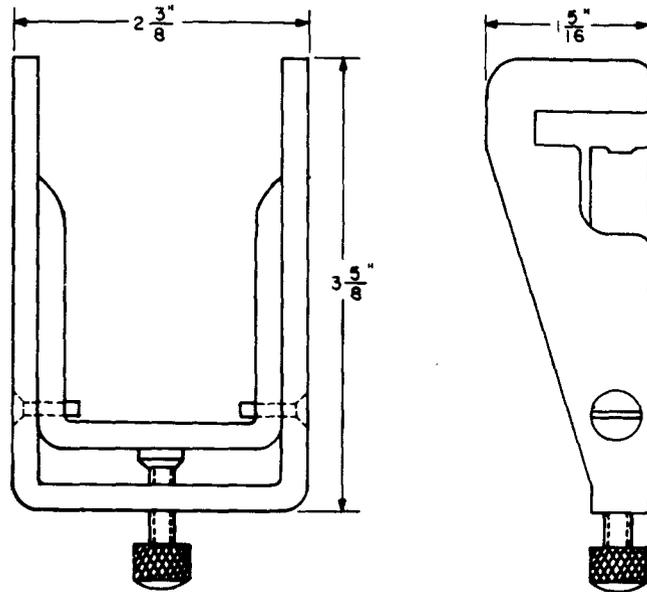

Fig. 5—425A Selector Holder Tool
2.07 425A: The 425A selector holder tool (Fig. 5) is used for holding nonrigidly mounted No. 200- and 206-type selectors in a rigid position while adjustments are being made.